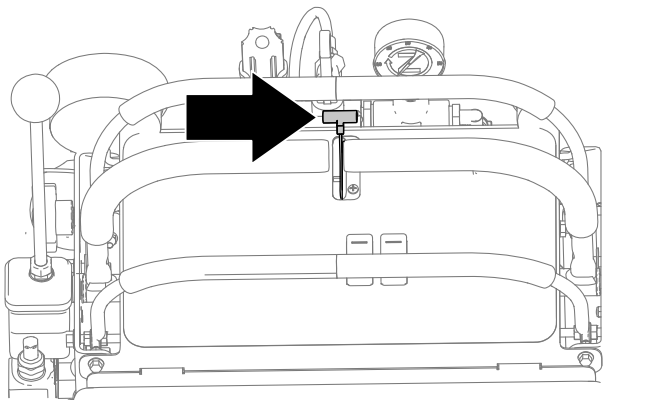

Figure 13
2. Move the throttle up from the SLOW position, approximately 1/2 of the way (Figure 13).